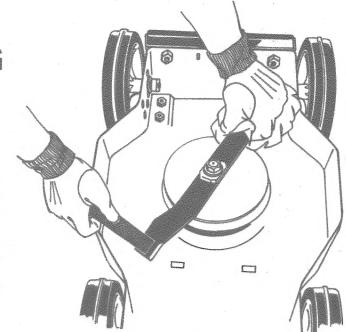

FIGURE 12
- (1) **UNPLUG MOWER!**
- (2) Wear gloves and turn mower over to expose blade (Figure 12).
- (3) Grasp blade as shown in Figure 12 using a rag to protect hand from cutting edge.
- (4) Sharpen each end of blade with a file, trying to remove an equal amount of metal from each end to maintain blade balance.